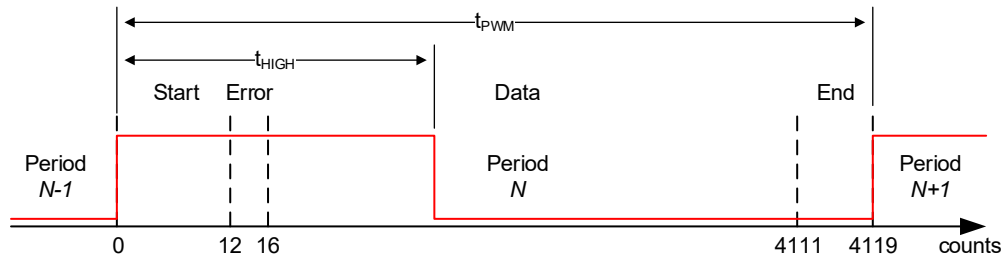
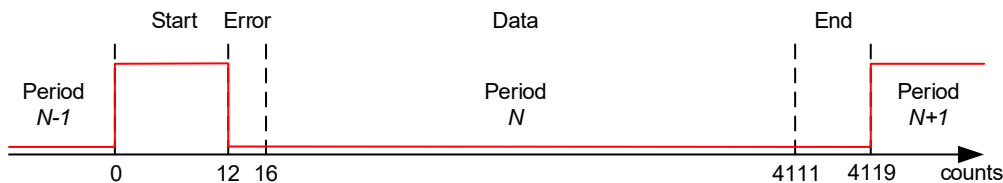

Figure 50: PWM output, normal operation
Figure 51: PWM output when PWMM = 1 and an error is detected
- Error, signal is held high in normal operation (Figure 50). It is held low if PWMM = 1 and an error is detected (Figure 51).
- Data, in normal operation, signal is held high for a number of counts proportional to the measured angle, then it is driven low (Figure 50). The signal is kept low if PWMM = 1 and an error is detected (Figure 51).
- Measure the PMW period t_{PWM} and the pulse width t_{HIGH} (Figure 50)